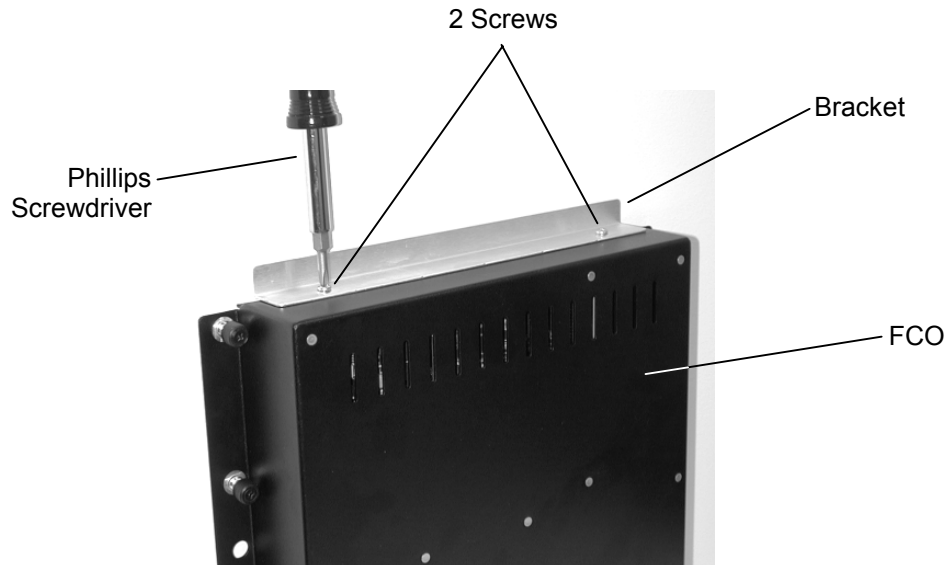

Figure 4-3 Remove the Bracket Before Attaching the FCO to TLS-4212 and 4222 Libraries
3. For TLS-4212 and 4222 libraries only, the aluminum bracket attached to the top of the FCO must be removed before the FCO is installed. Use a Phillips screwdriver to remove the two screws and the bracket from the top of the FCO. See Figure 4-3.